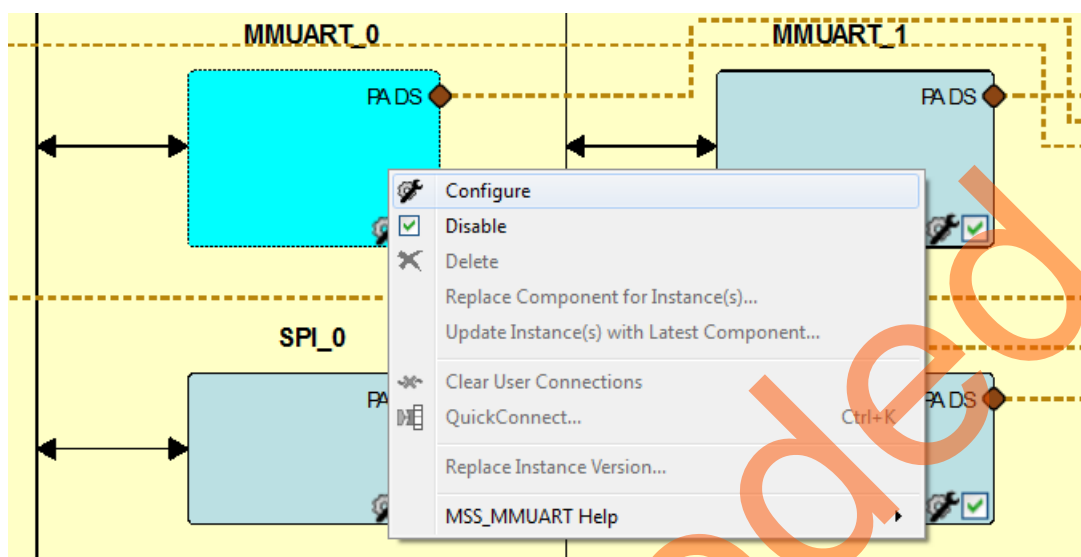

Figure 8 • Disabling a Peripheral Block
9. To disable a peripheral that is not required, right-click the peripheral block and clear the **Disable** check box, as shown in Figure 8, or clear the check box in the lower right corner of the peripheral box. The box turns gray to indicate that the peripheral has been disabled.